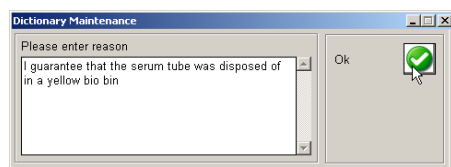
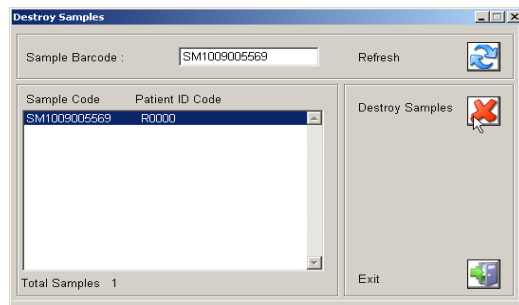

Figure 8 - 'Dictionary Maintenance' screen
Figure 22 - 'Destroy Samples' screen
9. Select the **'Split Cryo-tubes'** icon from the main Serum Workflow, and select the dispose of **'SerumZ'** icon ✖, bringing up the **'Destroy Samples'** screen. Select the correct sample and click the **'Destroy Samples'** icon ✖. The **'Dictionary Maintenance'** screen (Figure 8) will appear with a text statement guaranteeing the destruction of the tube. Click on the **'Ok'** icon ✔.
13. Dispose of the empty EDTA tube and return to the '**Aliquot of Eppendorfs**' screen from the Plasma Workflow, select the '**Dispose of EDTA tube**' icon  and follow the prompts to record the disposal of the EDTA tube (similar to Figure 8) according to the **SOPs: GCLPRPS024**.
- Select the 'Aliquot' icon on the 'Sample Lifecycle' screen , then select the sample and click on the 'Dispose of Urine Pot' icon , the 'Destroy Samples' screen will appear (Figure 22). Click on the 'Destroy Samples' icon , the 'Dictionary Maintenance' screen will appear (similar to Figure 8). Click on the 'Ok' icon  to confirm that the urine pot has been destroyed according to the **SOP: Disposal of Hazardous Waste**. Click on the 'Exit' icon on the 'Destroy Samples' screen to close the window.
17. Return to the '**Aliquot to Cryovials** screen'. Confirm the destruction of Falcon tube A, (Figure 21) by clicking on the '**Disposal of Falcon Tube**' icon . Select the '**Destroy Samples**' icon  on the '**Destroy Samples**' screen. Then click on the '**Ok**' icon  on the '**Dictionary Maintenance**' screen (similar to Figure 8).